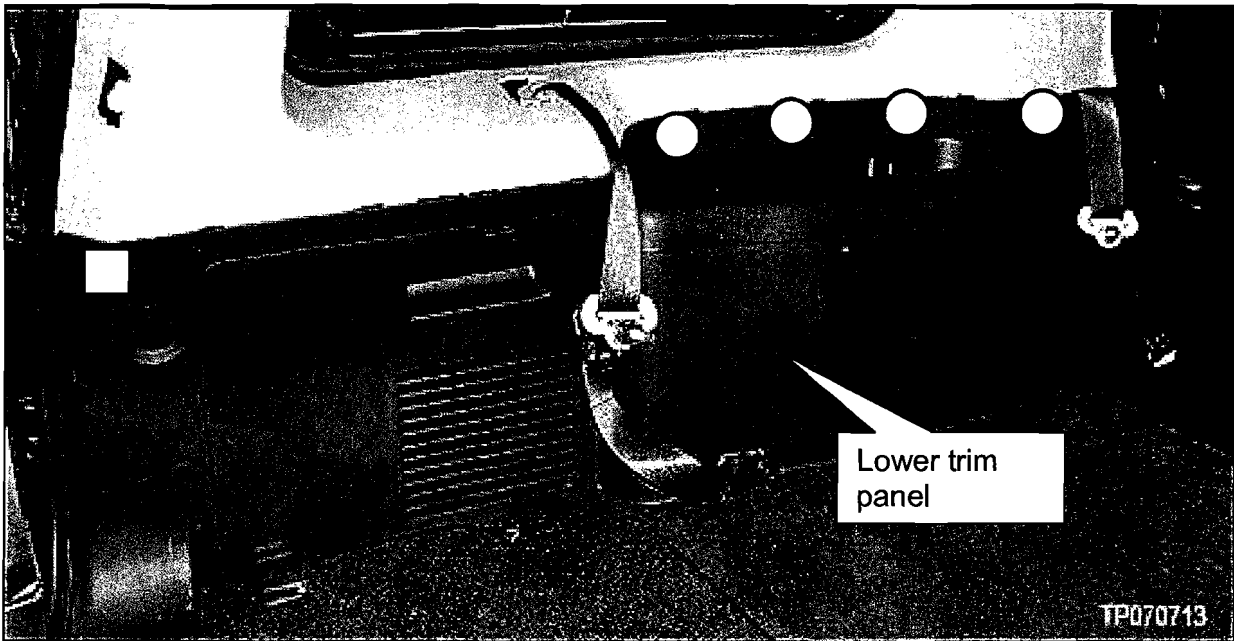

Figure A27
- Don't remove the panel, just pop loose the clips shown in Figure A27.